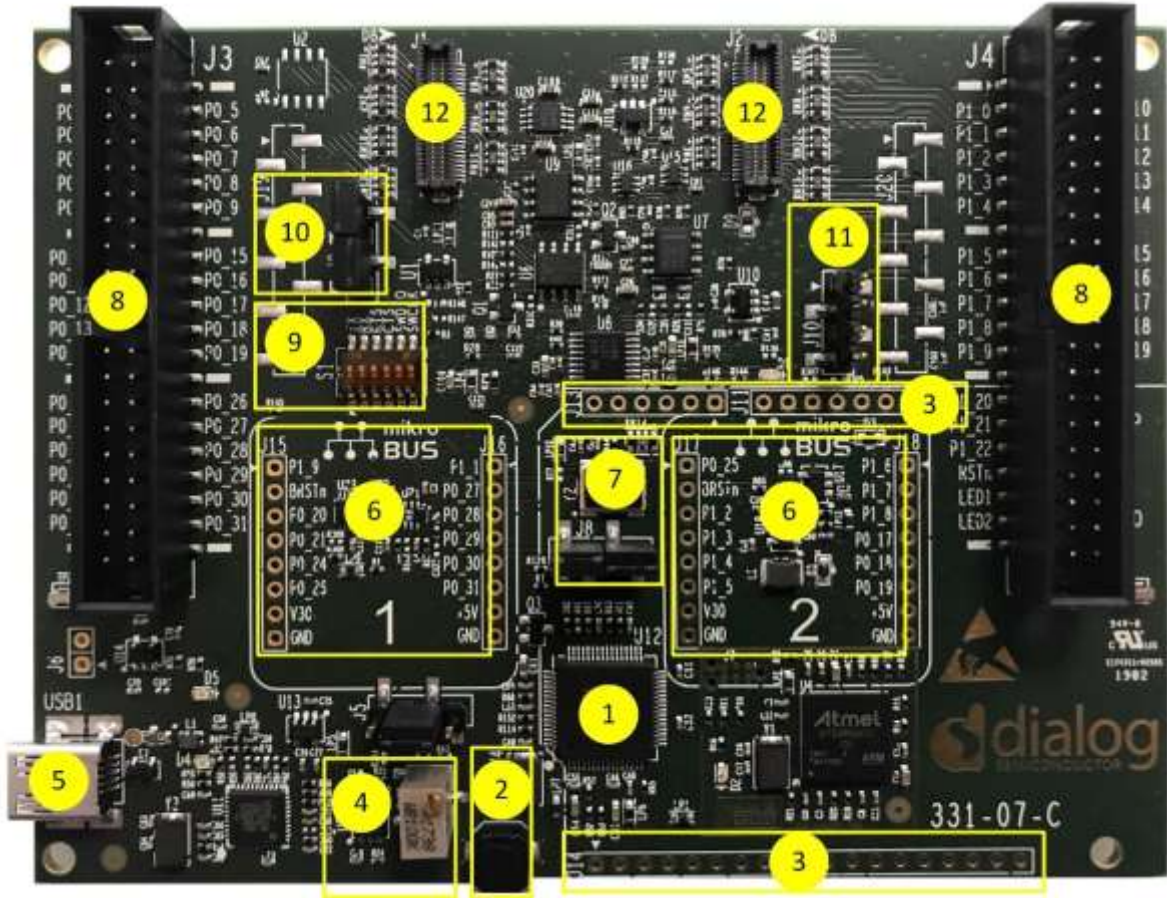

Figure 2: The DA14695 ProDK DK
- DA14695-00HQDEVKT-P main Board: **Figure 2**
Figure 2 illustrates the physical layout of the ProDK. The daughter board containing DA14695 device is shown in **Figure 4**.
J3 and J4 (Reference 8 in **Figure 2**) are the Breakout Headers (2 pcs 2x20pin) for monitoring GPIO and power signals, with markings of signal names on the PCB top silkscreen.
The ProDK Development Kit is connected to the host PC over the connector marked as USB1, as shown in reference 6 in Figure 2 and Figure 6 using a standard mini-USB cable. For further reading